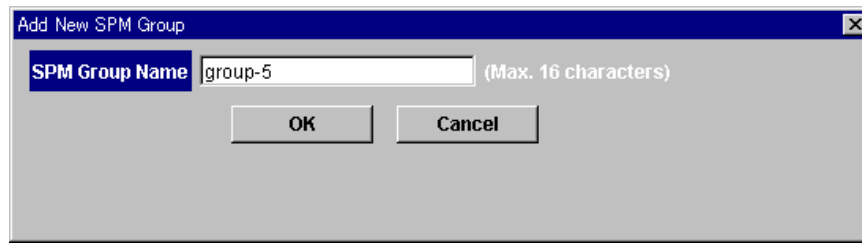

Figure 8.5 Add New SPM Group Dialog Box
5. In the **Add New SPM Group** dialog box (Figure 8.5), enter the name of the SPM group and then select **OK**. An SPM group is created, and an SPM group icon () is added to the lower-left tree.